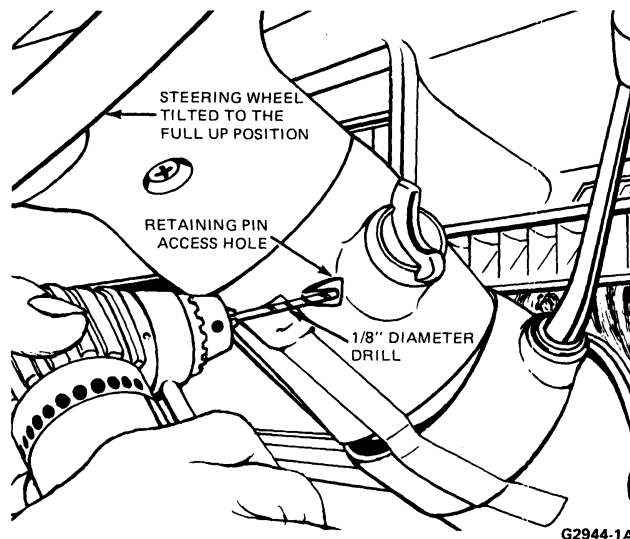

FIG. 13 Drilling Out the Lock Retaining Pin
4. Tilt the steering column to the full up position and prepunch the lock cylinder retaining pin with a prick punch. Using a 3.17mm (1/8 inch) diameter drill with a right angle drive drill out the retaining pin, going no deeper than 12.7mm (1/2 inch). (Fig. 13.)